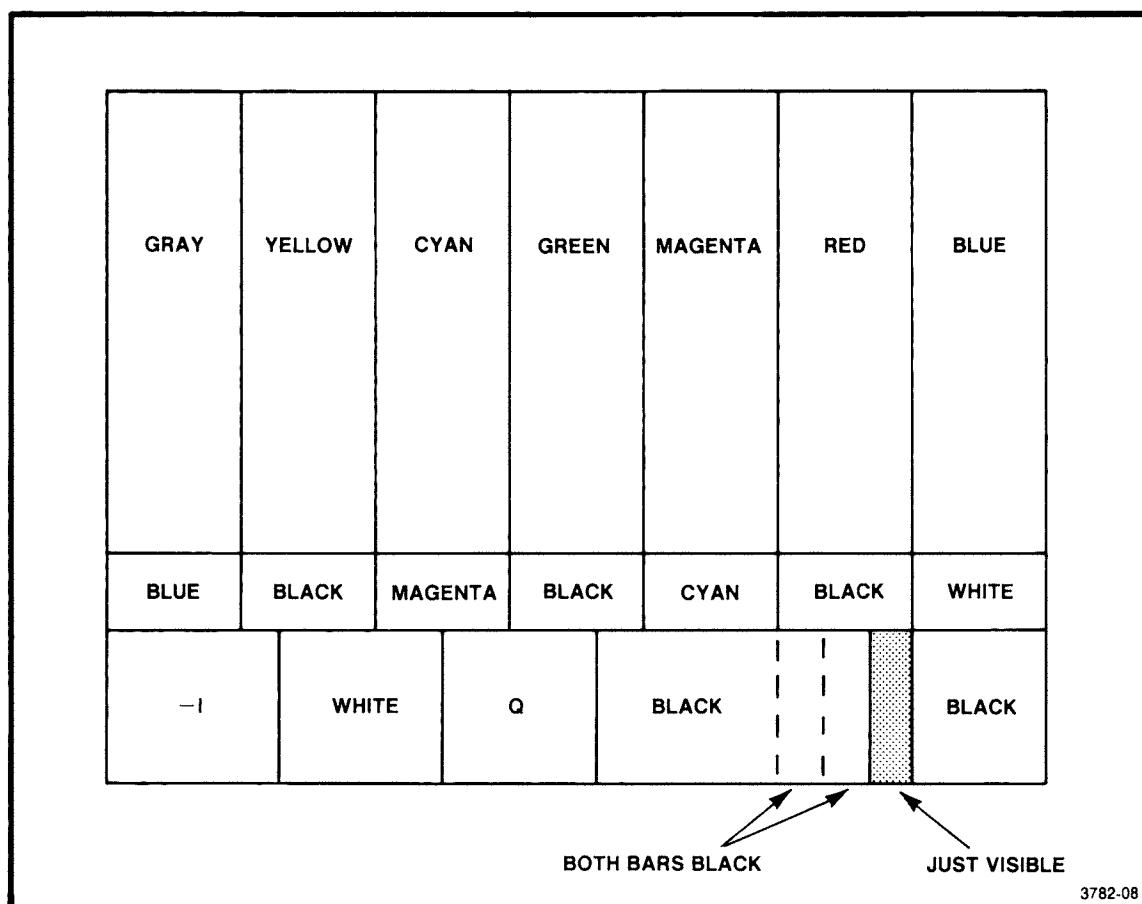

Fig. 1-8. Using the SMPTE Black Set signal to set the picture monitor Brightness control.
- d. With all three of the monitor's screens turned on at ambient viewing conditions, adjust the Brightness control until the gray 11.5 IRE part of the Black Set signal is just visible, but the difference between the blacker than black (3.5 IRE) and the black (7.5 IRE) segments is not discernable (See Fig. 1-8).